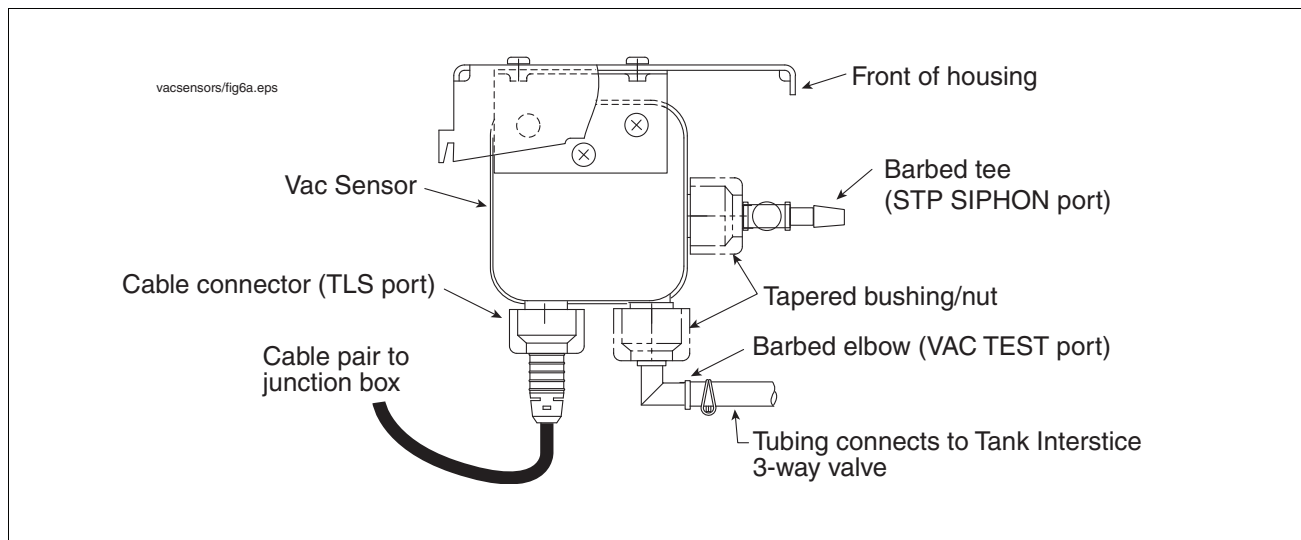

Figure 5. Vac Sensor /tank interstice tubing connections
9. If the tank interstice is monitored, get a barbed elbow, tapered bushing and cord grip nut (1 each) from the Vac Sensor tank interstice monitoring kit. Insert a tapered bushing and barbed elbow into the bottom port labeled VAC TEST (embossed on cover) of the Vac Sensor without a Vac Float. Orient the elbow as shown in the Figure 5, then tighten the cord grip nut.